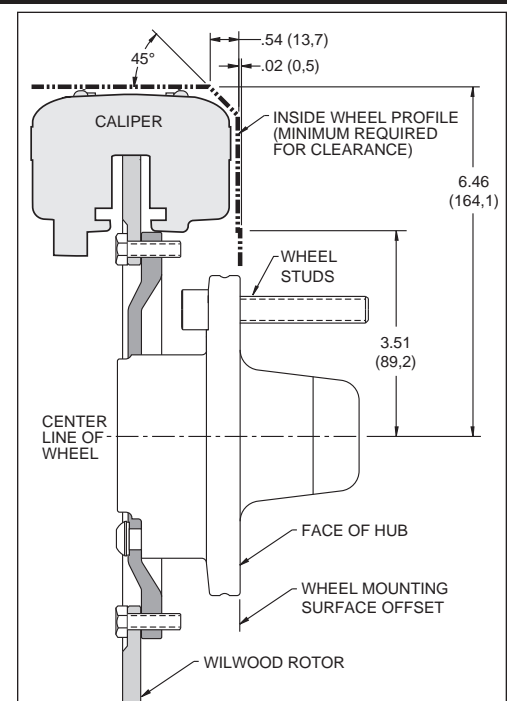

Figure 2. Wheel Clearance Diagram
- Verify your wheel clearance using Figure 2